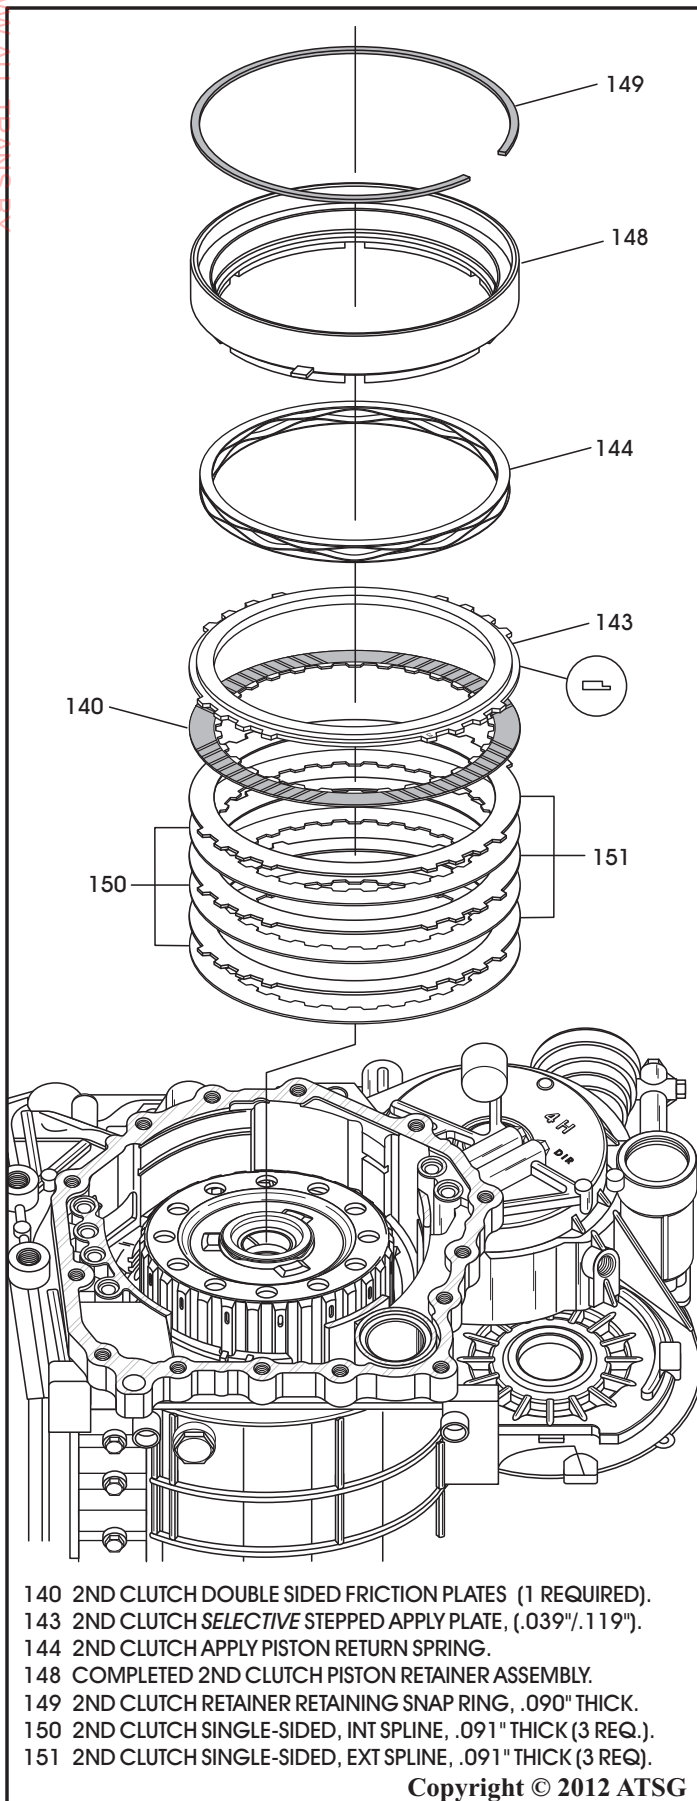

Figure 259
42. Install the "Single-Sided" second clutch plates beginning with an internal-spline plate and alternating with external-spline plates until you have installed three of each, as shown in Figure 259.
Note: "Single-Sided" plates are all installed with lining facing down (See Figure 259).
43. Install **one "Double-Sided" friction** on the last "Single-Sided" plate, as shown in Figure 259.
44. Install the selective second clutch apply plate that was selected in step 26 on Page 133, with the step facing up, as shown in Figure 259.
45. Install the second clutch piston return spring, as shown in Figure 259.
46. Install the completed second clutch retainer, as shown in Figure 259.
47. Compress the retainer against the return spring and install the retaining snap ring, as shown in Figure 259.